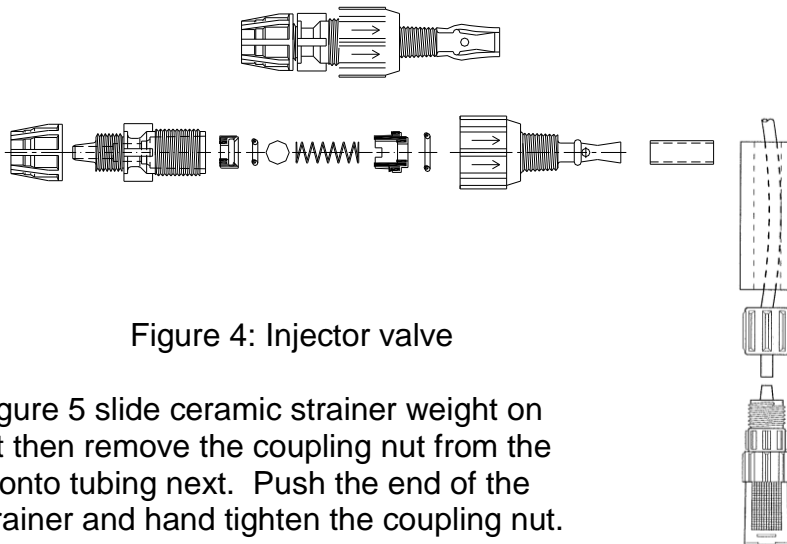

Figure 4: Injector valve
4) Apply Pipe tape to the injection fitting threads and install into piping system. **Do not remove the plastic sleeve on the tip of the fitting; it is a functional part** – see Figure 4.